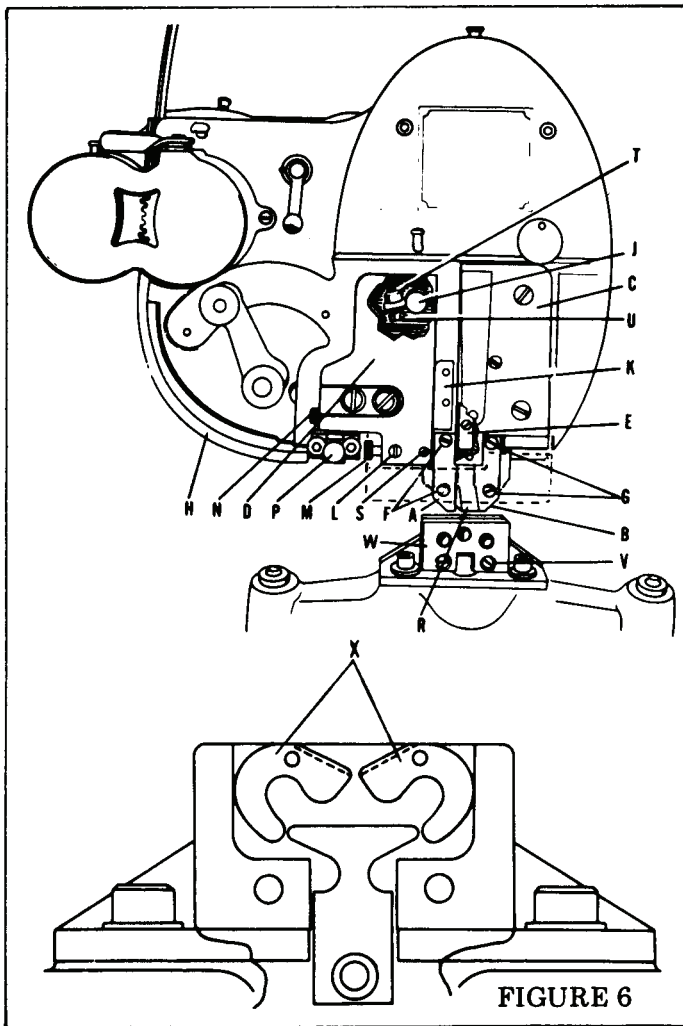

FIGURE 6
1. Remove mounting screws (Index V, figure 6).
2. Remove front plate (Index W, figure 6).
3. Replace clinchers (Index X, figure 6).
The formers (Index A & B, figure 6) perform two functions: (1) They bend the wire over the mandrel and form it into a stitch. (2) They guide and support the stitch as it is driven through the work material. The legs of an unclinchd stitch should be at right angles to the crown. When the formers become worn, the legs tend to flare out. See figure 8. This causes the legs to strike the clincher improperly. As a result, one or both legs will crumple. If the lower end of the former groove becomes chipped, it will not support the wire and may cause the stitch to break at the crown.
1. Remove the front block (Index C, figure 6). If left former must be replaced, remove cutter block (Index D, figure 6).
The function of the driver (Index E, figure 6) is to exert pressure on the crown of the stitch to force it through the work material. A chipped driver allows the leg of the stitch to back up into the broken area. This causes the corner of the crown to fracture or a "spike" section to protrude above the crown. A worn driver often causes deformed stitches or fracturing at the corners of the crown.
1. Remove front block and cutter block (Index C & D, figure 6).
2. Remove the screws from the formers (Index F & G, figure 6).
1. Loosen the wire guide screw (Index L, figure 6) and the cut-off die set screw (Index S, figure 6).
3. Remove wire guide (Index M, figure 6). Insert small punch and tap out die.
1. Remove the cutting block (Index D, figure 6).
2. Loosen lock nut (Index T, figure 6).
3. Turn the adjusting screw (Index U, figure 6) clockwise to shorten the travel of the knife; counterclockwise to lengthen the travel.
2. It carries the straight, cut-to-length, piece of wire under the formers (Index A & B, figure 6).
1. Remove the front block (Index C, figure 6).